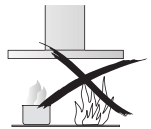

Fig. 2
- ⊘ Do not leave lit gas burners exposed due to the risk of fire.(Fig.2)